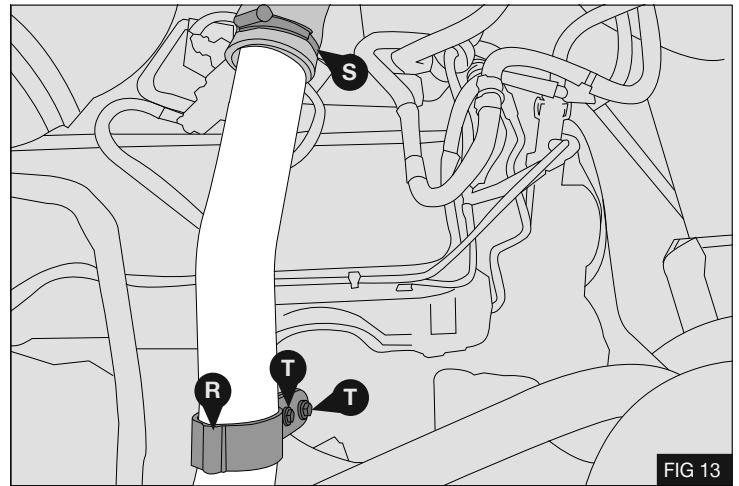

FIG 13
2. Mark the top intercooler pipe bracket **(R)** position, undo and discard intercooler silicone hose clamp **(S)** and remove 2 bolts **(T)** clamping the intercooler pipe. - Fig 13